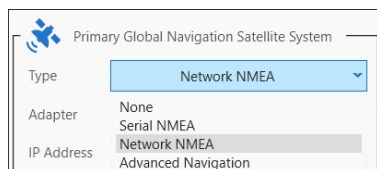

Figure 19: Select "Network NMEA" from the Type dropdown list
- In Primary GNS System, select "Network NMEA" as type (figure 19)